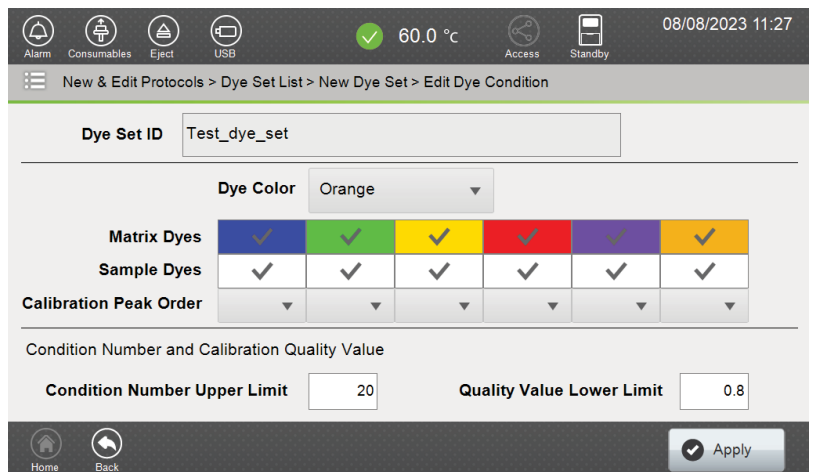
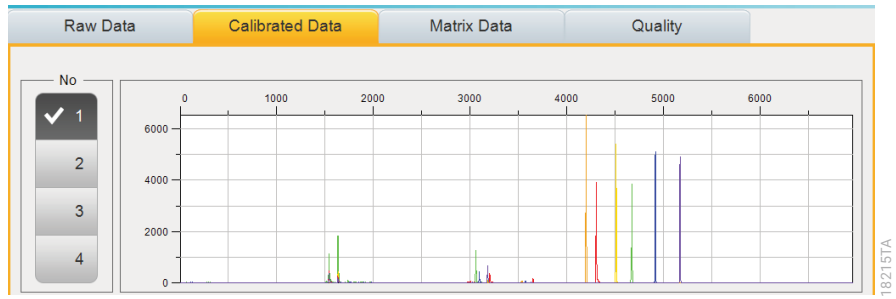

Figure 145. Selecting the dyes in the 'Edit Dye Condition' screen.
Figure 146. Dye order detected in Spectral Calibration.
- Select the dyes used for Spectral Calibration on the Matrix Dyes row. This row shows the order that the dyes will appear in the 'Matrix Data' tab (Figure 55) and assigns a numerical value for each dye based on this order. In the example below, Blue = 1, Green = 2, Yellow = 3, Red = 4, Purple = 5 and Orange = 6. Select the dyes used for samples on the Sample Dyes row (Figure 145).
- Configure the dye order in Calibration Peak Order. The Calibration Peak Order correlates the position of the dyes as they pass the detector relative to the order shown in the Matrix Dyes row (Figure 145). In this example, as the orange dye is in the sixth position in the Matrix Dyes row, but is the first dye labeled spectral calibration fragment to pass the detector (Figure 146), then the number 6 is listed first in the Calibration Peak Order row (Figure 147), showing that orange (6) will be detected first. The red dye is listed fourth in the Matrix Dyes row and is the second peak to pass the detector during calibration, therefore 4 is listed in the second cell of the Calibration Peak Order row (Figure 147), showing that red (4) will be detected second. Continue assigning Calibration Peak Order using this convention.